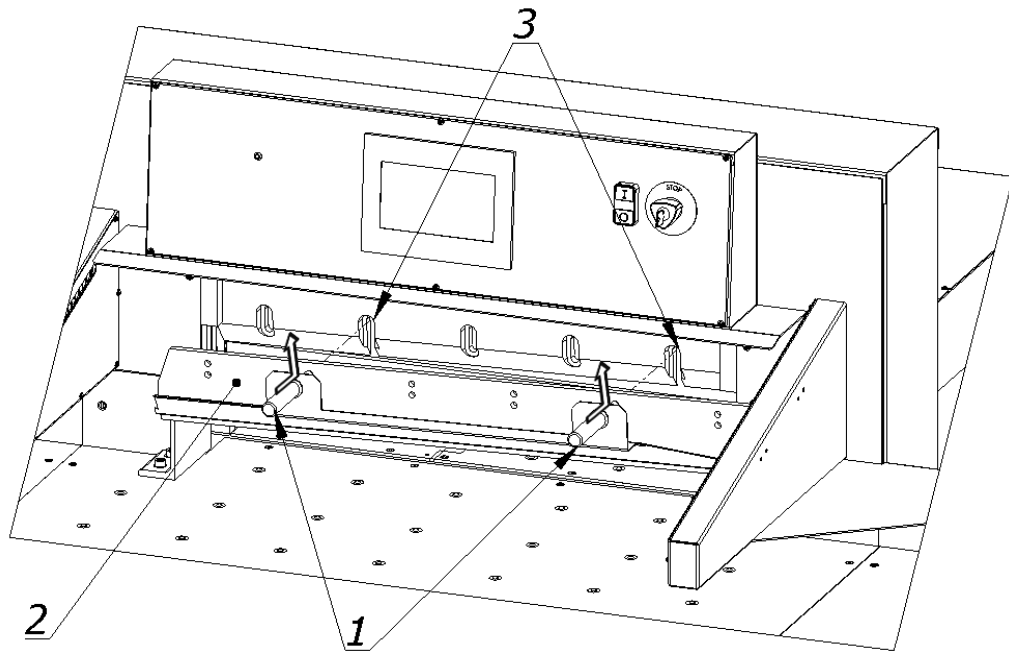

Figure 31.
8.1.2.3. Holding the transport handles 1, insert the knife 2 into the cutter so that the transport handles screwed into the knife hit the cutouts in the cutter bar 3. (Fig. 31)